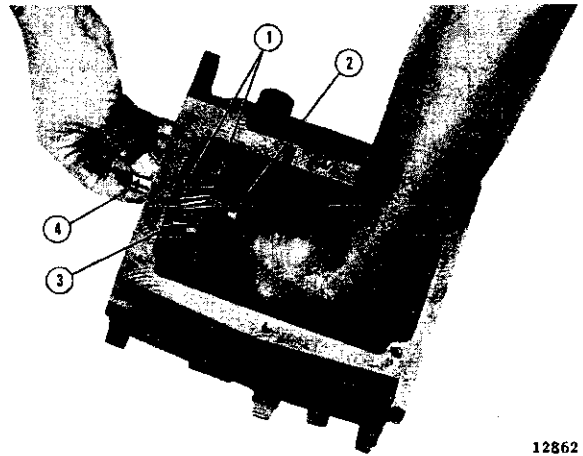

FIG. J-21—REMOVING-INSTALLING REVERSE IDLER GEAR
l. Using Tool W-336 drive the reverse idler shaft rearward, out of the case. Remove reverse idler gear, washers, and roller bearings as an assembly. Refer to Fig. J-21.